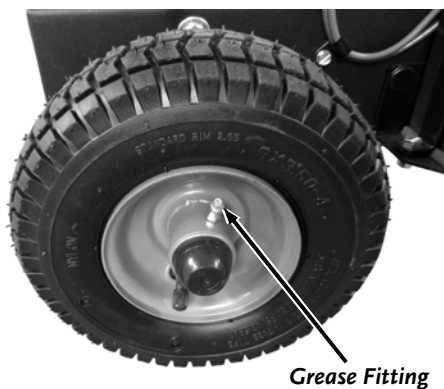

Figure 14
1. Wipe all dirt, etc., from the Grease Fittings on both Wheels with a clean cloth (**Figure 14**).